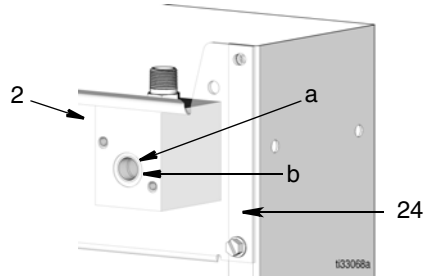

FIG. 10
3. Position manifold (2) inside oil bar, orienting opening (a) on the front of the manifold with opening (b) in the mounting plate (24) as shown in FIG. 10.